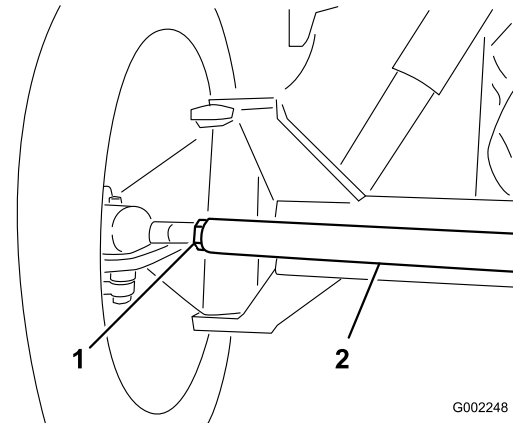

Figure 103
3. If the measurement does not fall within the specified range, loosen the jam nuts at both ends of the tie rod (Figure 103).